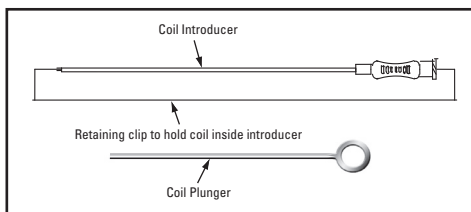

Figure 1. Coil Introducer, Retaining Clip and Plunger
The coil is provided with an introducer with a retaining clip that secures both ends of the introducer during shipping and storage. The coil plunger is used to move the coil out of the introducer and into the microcatheter (see Figure 1).
2. Remove the retaining clip from the coil introducer (see Figure 1) and discard. Attach a 3 ml saline-filled syringe with luer lock to the introducer hub. Gently infuse the introducer with saline to reduce friction and aid in coil introduction.